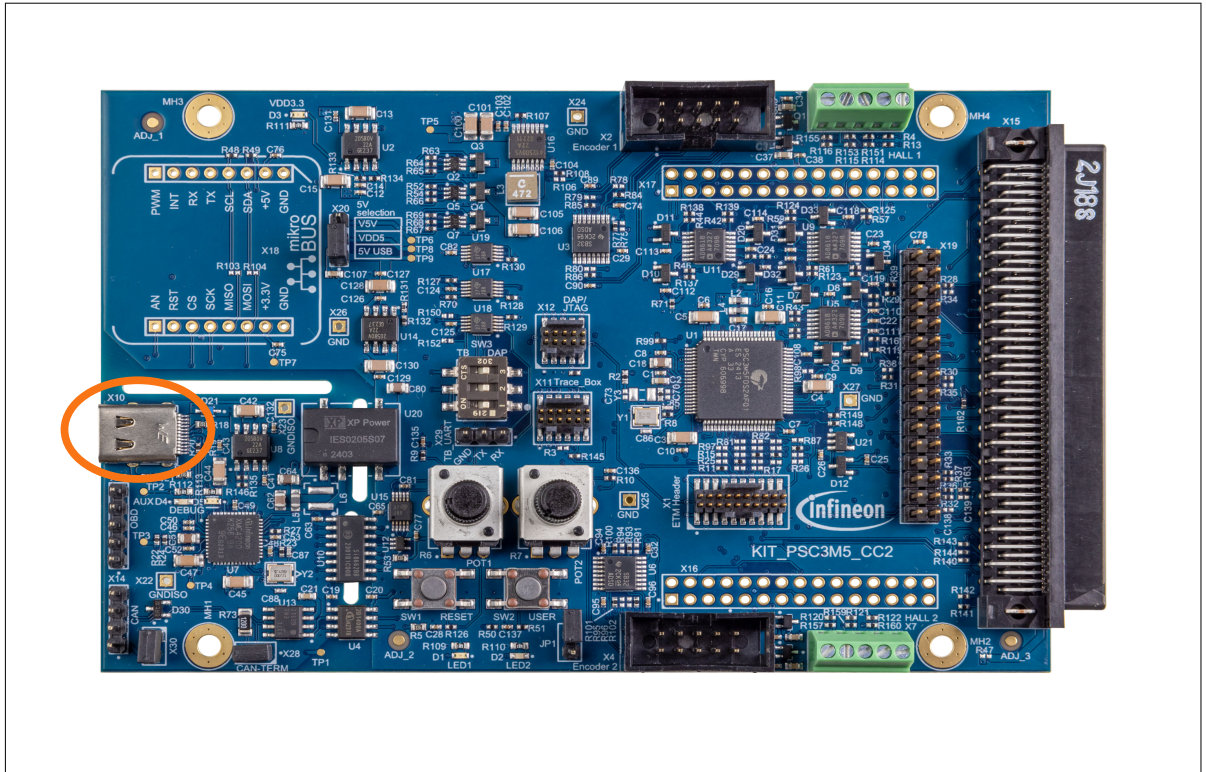

Figure 8 Connect USB cable to the USB connector on board
1. Connect the board to the PC using the provided USB cable through the J-Link USB connector (X10), as shown in Figure 8. It enumerates as a USB composite device if you are connecting it to your PC for the first time